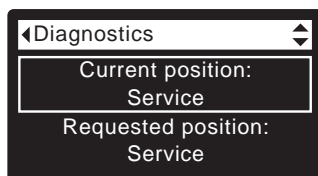

FIG. 103
4. Press the UP (▲) button to scroll through the list until **Current position** is displayed (See Figure 103).